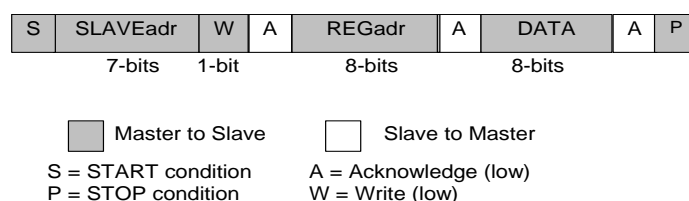
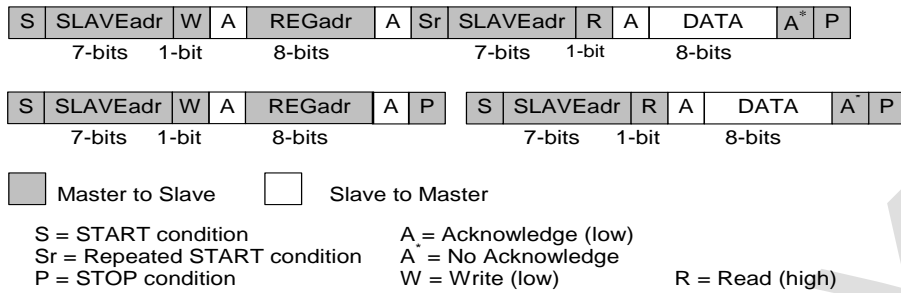

Figure 10: I²C Byte Write (SDA Line)
Figure 11: I²C Byte Read (SDA Line) Examples
The I²C bus is monitored for a valid slave address whenever the interface is enabled. It responds immediately when it receives its own slave address. The acknowledge is done by pulling the SDA line low during the following clock cycle (white blocks marked with A in Figure 10 and Figure 11).
The protocol for a register write from master to slave consists of a START condition, a slave address with read/write bit, and the eight-bit register address followed by eight bits of data, terminated by a STOP condition. DA9130-A responds to all bytes with acknowledge (A), see Figure 10.
When the host reads data from a register it first has to write to DA9130-A with the target register address and then read from DA9130-A with a repeated START, or alternatively a second START, condition. After receiving the data, the host sends no acknowledge (A*) and terminates the transmission with a STOP condition, see Figure 11.